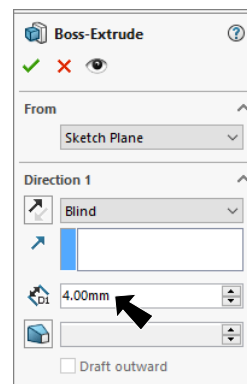

Fig. 6
Step 13. In the Property Manager set: under Direction 1, **Fig. 6**